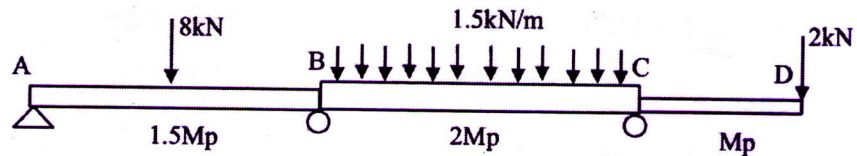

Fig.3
- 2 a) Determine the plastic moment capacity M_p of the continuous beam shown in Fig.3. Given $AB= BC= 6m$, $CD = 3m$ and the point load $8kN$ is applied at the mid span of AB . (14)